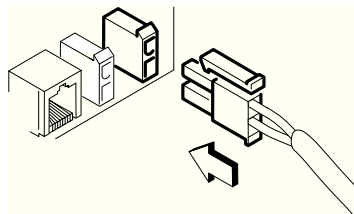

Fig. 7 – Connecting the cable
- ▶ Connect the actuator cable in the direction of the arrow (see Fig. 7).